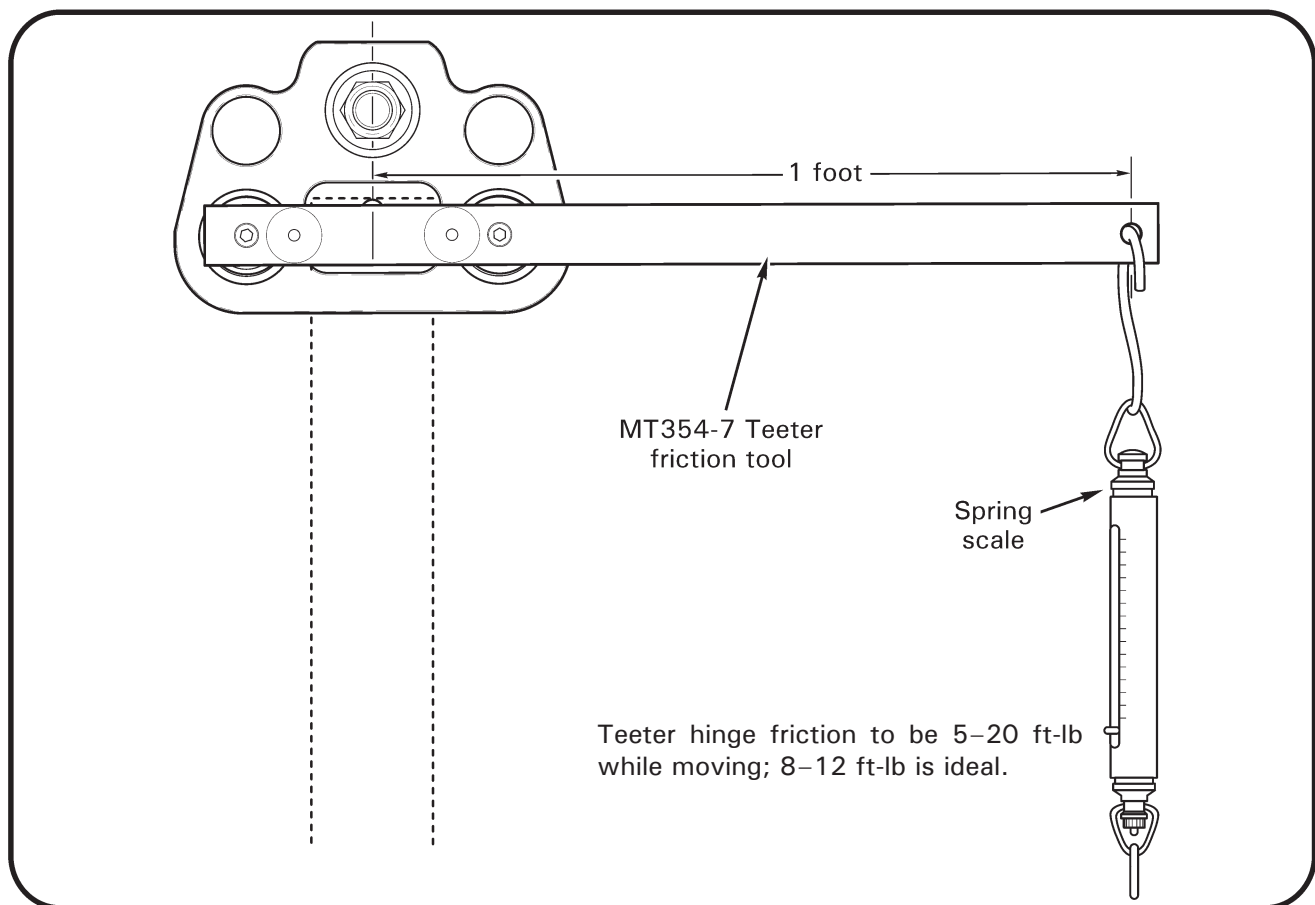

FIGURE 62-7B MEASURING TEETER HINGE FRICTION
- a. Verify stretch is between 0.020–0.022 inch, remove tool and install a new cotter pin wet with approved primer. Verify correct teeter hinge friction per Figure 62-7B. If bolt stretch is not between 0.020–0.022 inch, or if teeter hinge friction is incorrect, discard bolt and nut; replace with new per step b.
- b. Stretch (undrilled) bolt to 0.021–0.022 per § 20-33. If bolt stretched to 0.024 inch, discard bolt and nut; replace with new. Verify correct teeter hinge friction per Figure 62-7B; adjust as required. Drill bolt and nut per § 62-34 and install a new cotter pin wet with approved primer.
3. While stretching teeter hinge bolt, check teeter hinge friction frequently per Figure 62-7B. To check friction, install MT354-7 teeter friction tool into coning hinge bearings on one side of main rotor hub and measure lowest moving force (not breakaway force) required to teeter main rotor hub with a spring scale.